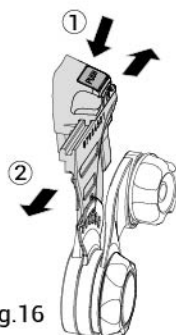

fig.16
- To adjust the distance between the user's face and lens by pressing the button down on each adapter and then sliding forward or back (See fig.16).